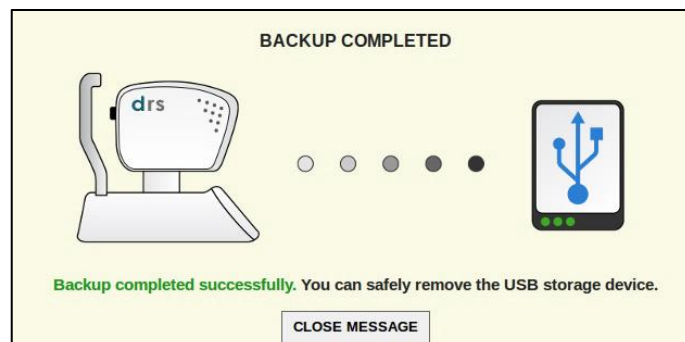

Figure 36 – Backup completed message
4. Retrieve the DRS IP, as explained in Settings >> Network (see par. 14.3, Figure 36);
- A BACKUP IS ONLY EFFECTIVE WHEN THE “BACKUP COMPLETED” MESSAGE IS DISPLAYED (SEE Figure 36)
Each time the “Network” tab is selected, a network test is performed. Once it completes, the result is displayed on the screen next to the Current network status label. The result can be any of the following (see Figure 36):